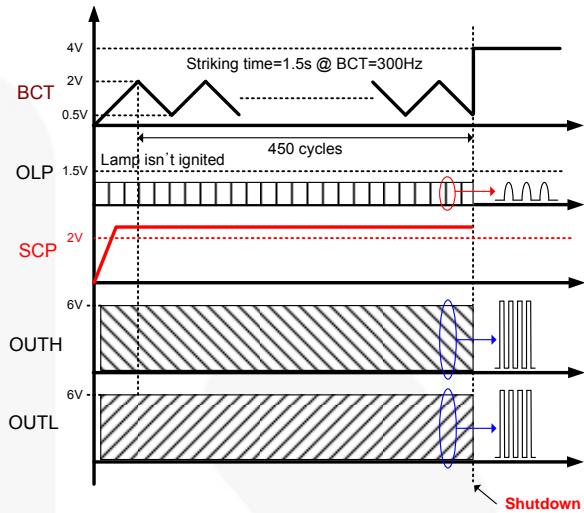
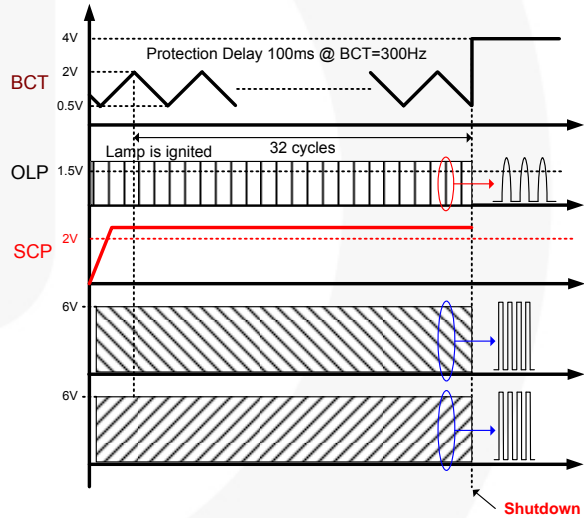

**Figure 41. Open-Lamp Protection in Striking Mode**
**Figure 42. Open-Lamp Protection in Normal Mode**
**Open-Lamp Protection:** If OLP is lower than 1.5V at initial operation, the IC operates at striking mode for BCT 450 cycles, as shown in Figure 41. If OLP is lower than 1.5V at normal mode, the IC is shut down after a delay of three BCT cycles, as shown in Figure 42.